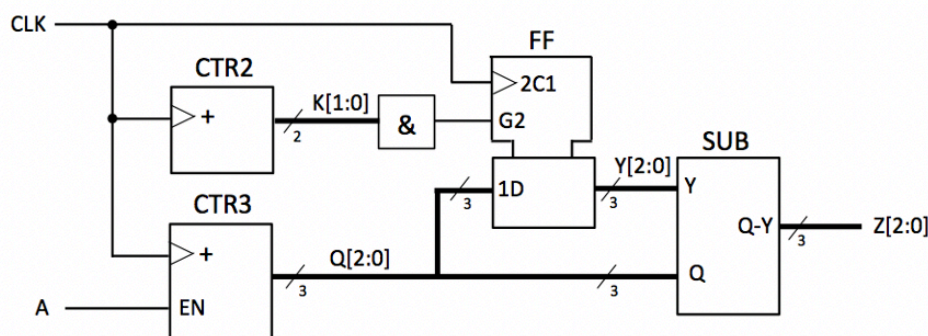

Figure 3.1
3. *Figure 3.1* shows a circuit consisting of a 2-bit up counter CTR2, a 3-bit counter CTR3 which counts up when EN is high, a 2-input AND gate, a 3-bit register FF which is enabled when G2 is high and a 3-bit binary subtractor SUB. The circuit is clocked by the signal CLK, and has an input A and an output Z[2:0].